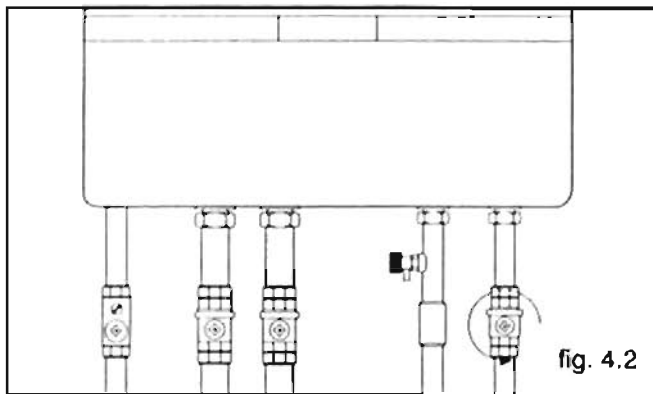

fig. 4.2
- 2 Open the cold water inlet cock as indicated in fig. 4.2;